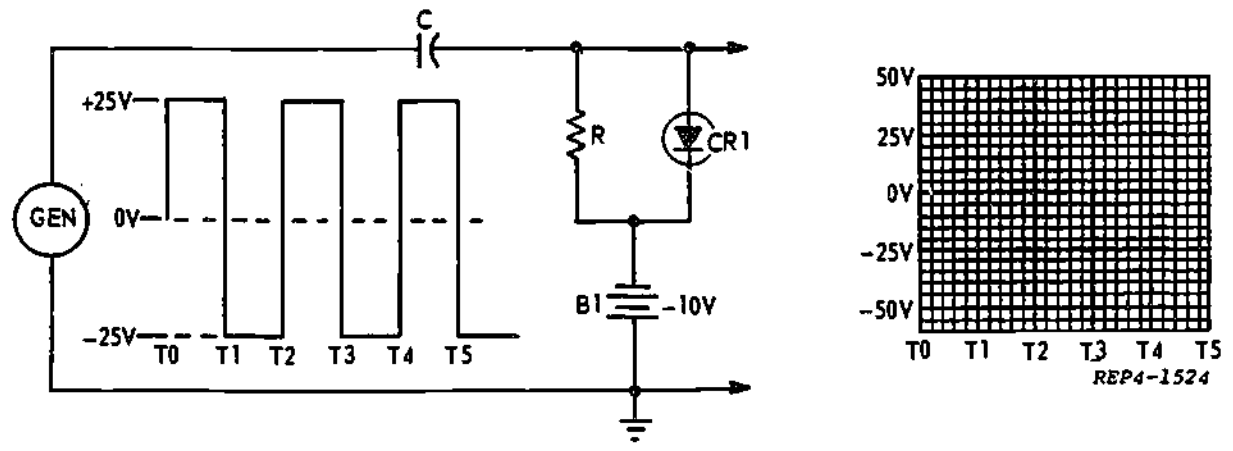

Figure 50-11 .
- 13. The circuit in figure 50-11 is correctly identified as a (negative) (positive) clamper with (negative) (positive) bias.
14. With the square wave input shown in figure 50-11, draw the circuit output signal on the graph provided.